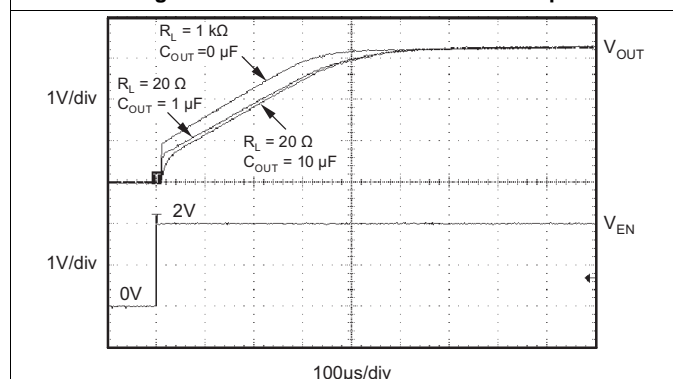

Figure 21. TPS73633 Turnon Response
The enable pin (EN) is active high and is compatible with standard TTL-CMOS levels. A  $V_{EN}$  below 0.5 V (maximum) turns the regulator off and drops the GND pin current to approximately 10 nA. When EN is used to shutdown the regulator, all charge is removed from the pass transistor gate, and the output ramps back up to a regulated  $V_{OUT}$  (see Figure 21).